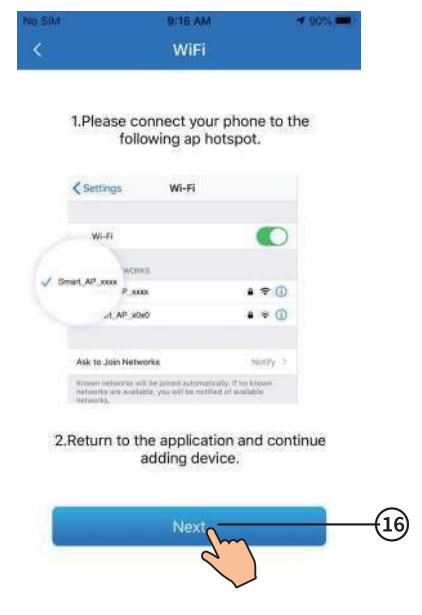

Fig.12 Connect specified WiFi
4. Slide the page back to configure network interface, click ①⑥ to turn next page (Fig. 12), click ①⑦ to join WLAN Network, click ①⑧ to cancel (Fig. 13); click ①⑨ to bond device (Fig. 14);